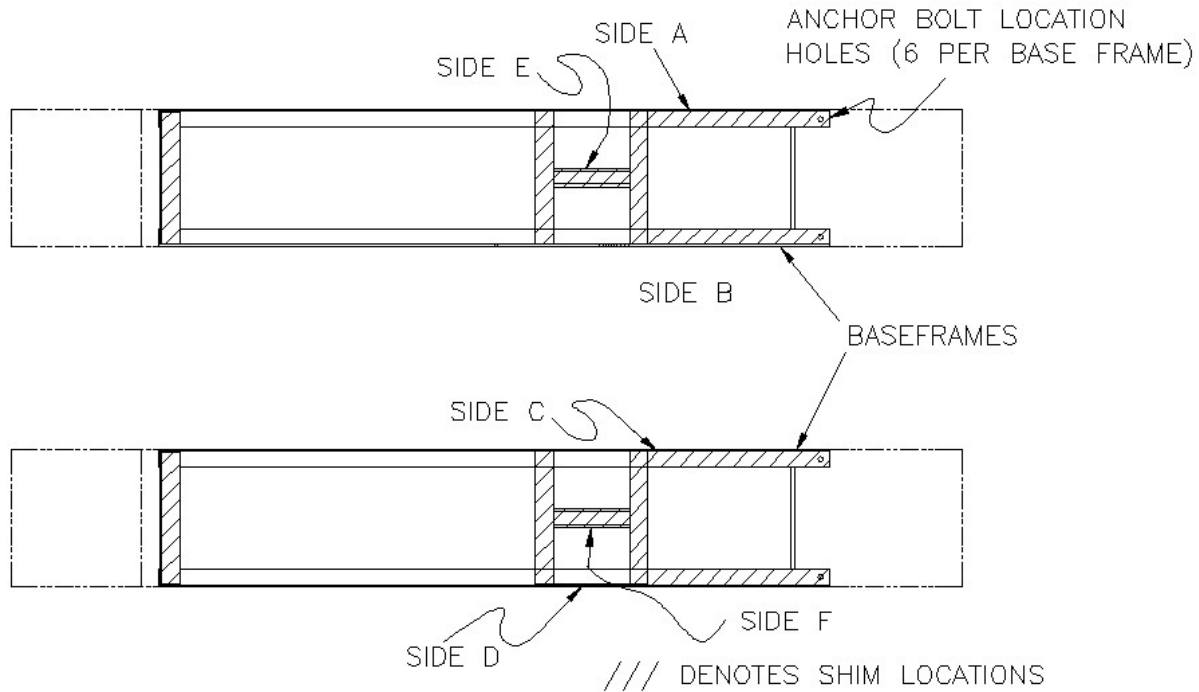

Figure 5. Leveling procedure example
1. The highest point on the floor, noted from Section 4.1 step 6 is the point from which the base frame will be levelled from. A quick check using a four (4) foot level across the base frame should again verify that this is the highest point.
2. Starting at the corner closest to the highest point, check along the length of the base frame edge with the four foot level and shim as required. **NOTE THE FIVE CRITICAL POSITIONS THAT SHIMS MUST BE PLACED ON EACH BASE FRAME OF EACH MAIN FRAME ASSEMBLY.** Refer to **Figure 5**.
LEVELLING EXAMPLE: FIGURE 5